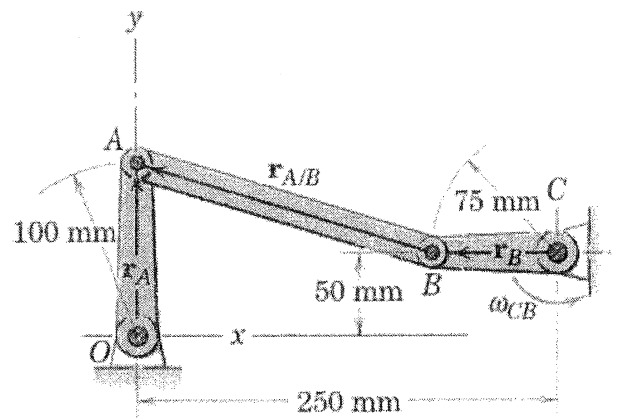

Figure Q6(c)
- c. Crank CB oscillates about C through a limited arc, causing crank OA to oscillate about O as shown in Figure Q6 (c). When the linkage passes the position shown with CB horizontal and OA vertical, the angular velocity of CB is 2 rad/s in the counterclockwise direction. For this instance,